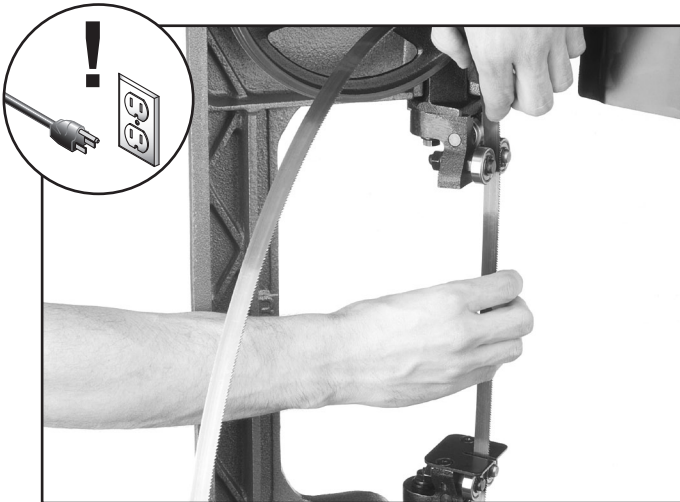

Figure 46. Installing blade.
4. Install the new blade through both blade guide bearings as shown in **Figure 46** and around the bottom wheel.